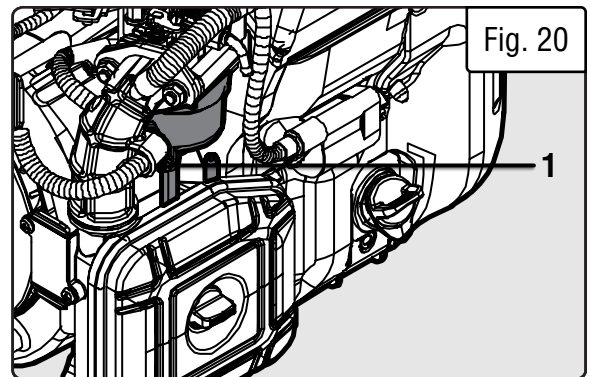

Fig. 20
3. Open up the carburetor drain screw (Fig. 20 - 1) with a Phillips screwdriver and drain out any gasoline that has built up inside the carburetor.